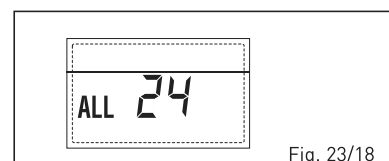

Fig. 23/18
- **ANOMALÍA SONDA ACUMULADOR SOLAR (S2) “ALL 25” (fig. 23/19)**